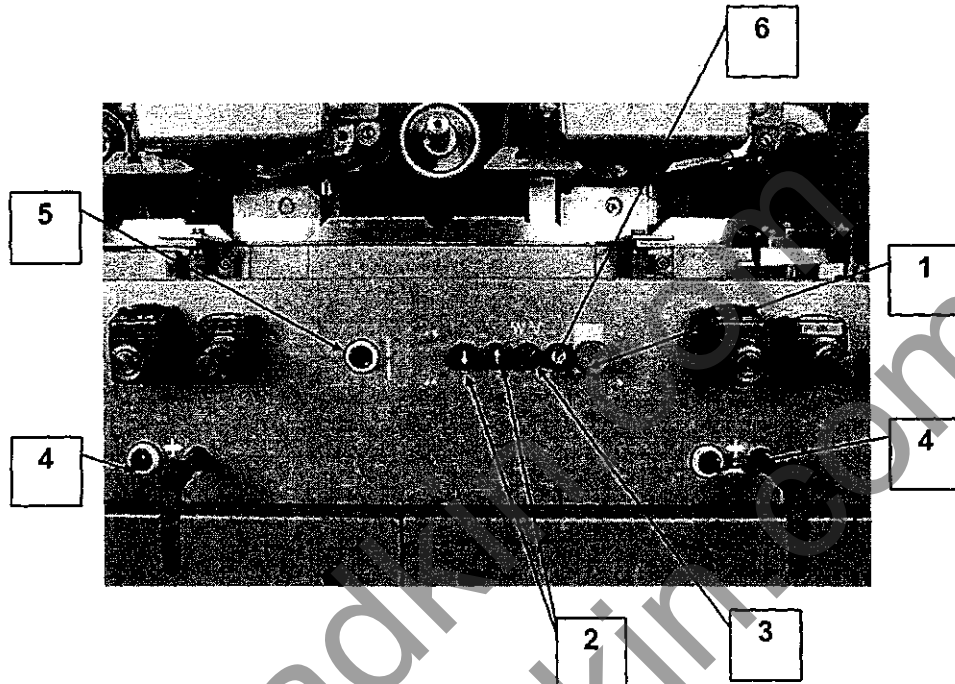

Figure 4.2.2
Similar buttons are also on the local control panel located beneath the first top head. (see Figure 4.2.2).
The machine front face controls are located beneath the first top head and consist of a number of buttons, switches and indicators (see Figure 4.2.2).
- 1 Unclamp the pneumatic lock on the head ((1) on Figure 4.2.2).
- 2 Using the crank handle adjust shaft (6) until the spindle flange is the required amount below the level of the bed.
- 3 Clamp the pneumatic lock on the head ((1) on Figure 4.2.2).
- 6 Place the straight edge (1) against the outfeed fence extending over the fence side head cutter block.
- 7 Release locking handle (2).
- 8 Turn the cutter block by hand clockwise and using the crank handle adjust shaft (3) until a cutting edge of the cutter block **just touches** the straight edge. The final movement of the spindle should be **towards** the workpiece.
- 2 Using the crank handle, adjust shaft (4) until the cutter block is the required depth below the level of the bed.